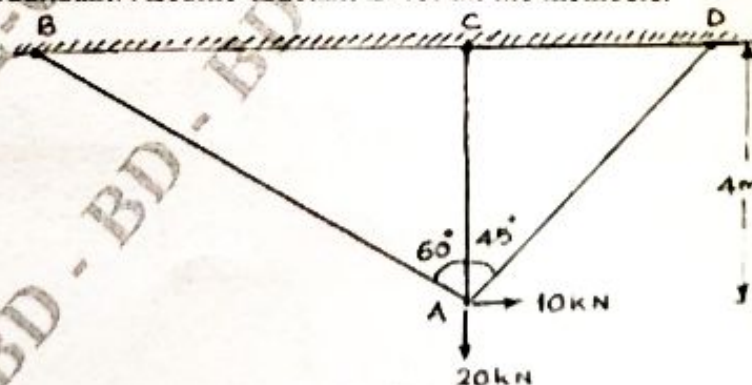

Fig.Q8
- 8 Analyze the truss shown in Fig.Q8 by flexibility matrix method choosing force in the member AD as redundant. Assume constant EI for all the members.